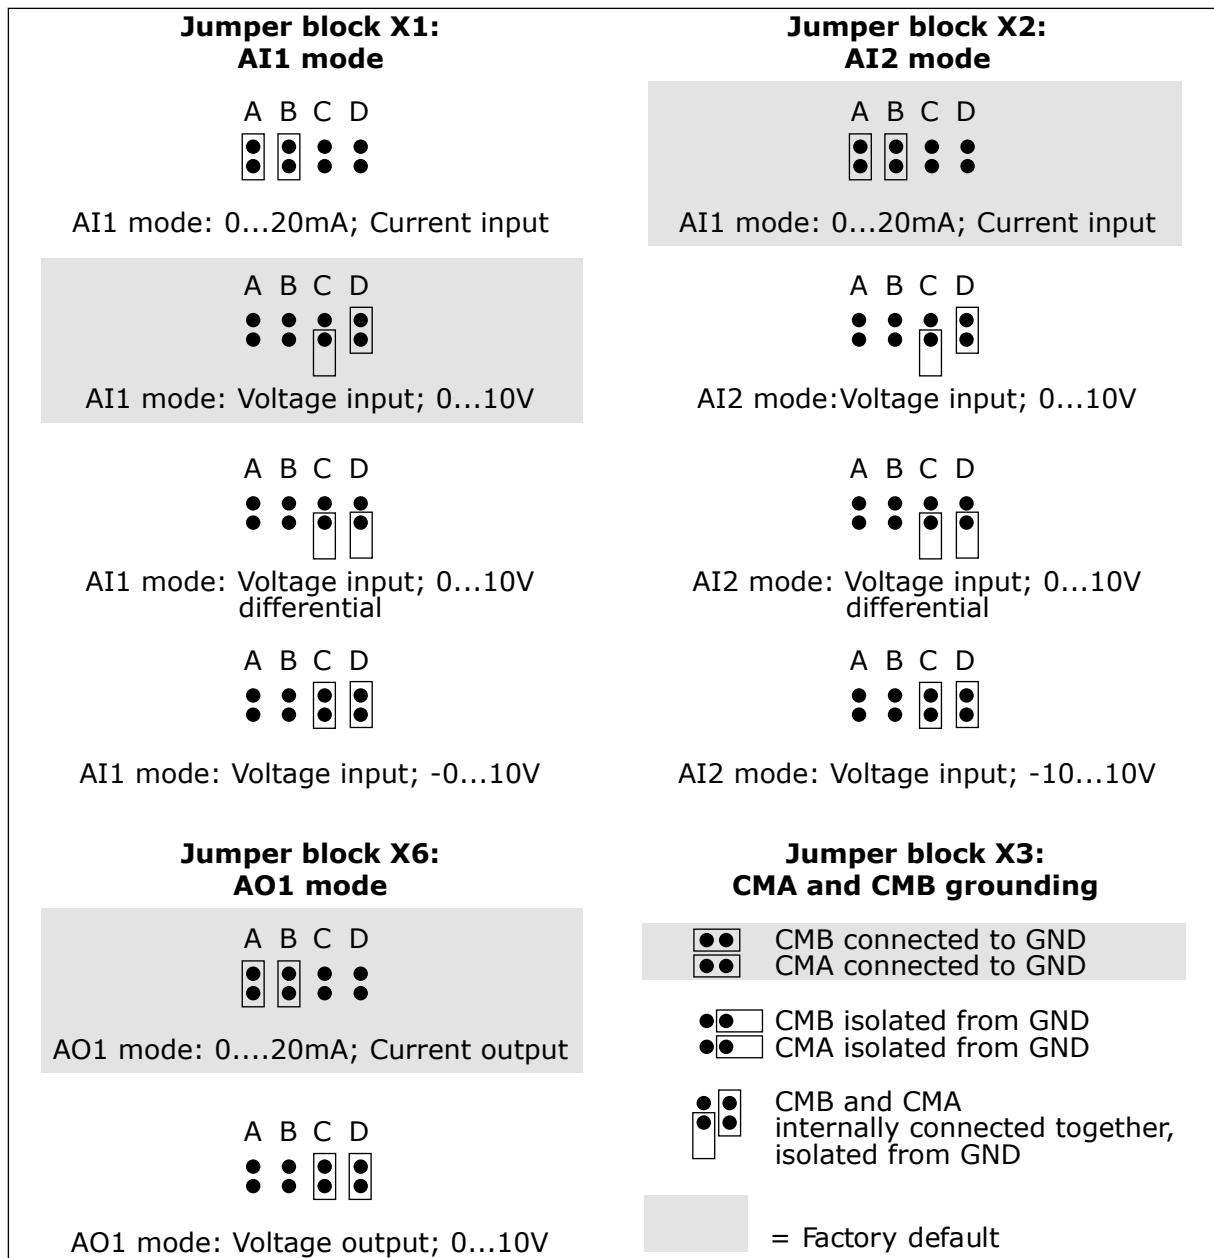

Fig. 26: Jumper selections for OPTA1
*) See Fig. 26 Jumper selections for OPTA1.